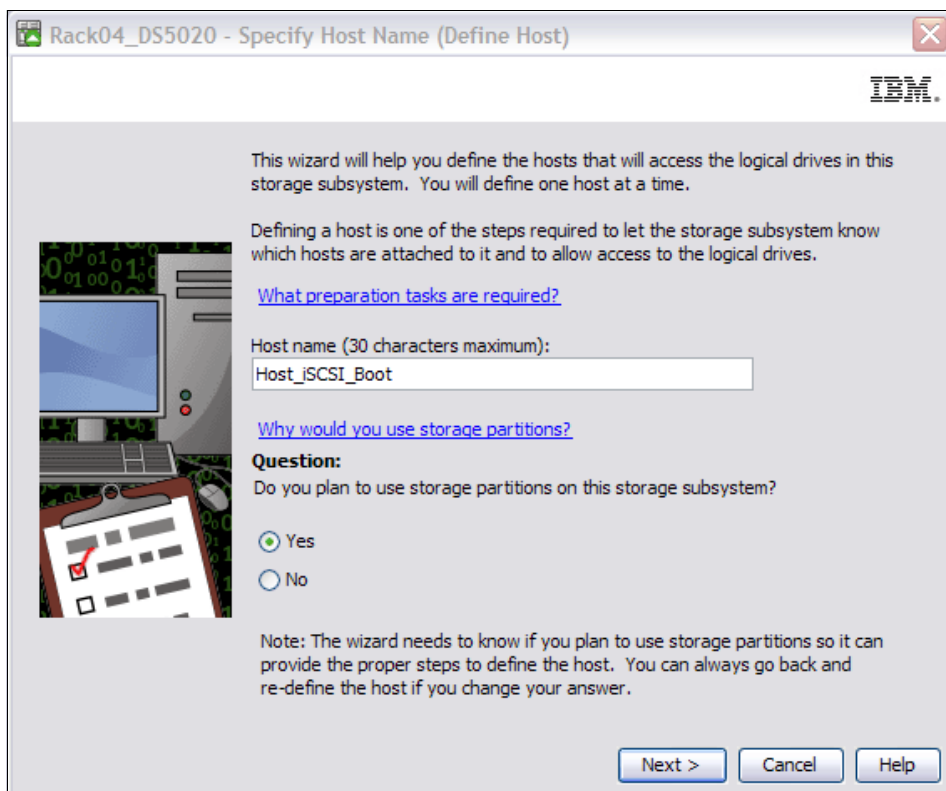

Figure 6-27 Specify Host Name
- b. A wizard window opens, to guide you through the steps of defining hosts. Provide the desired host name in the **Host name** text box, as shown in Figure 6-27.